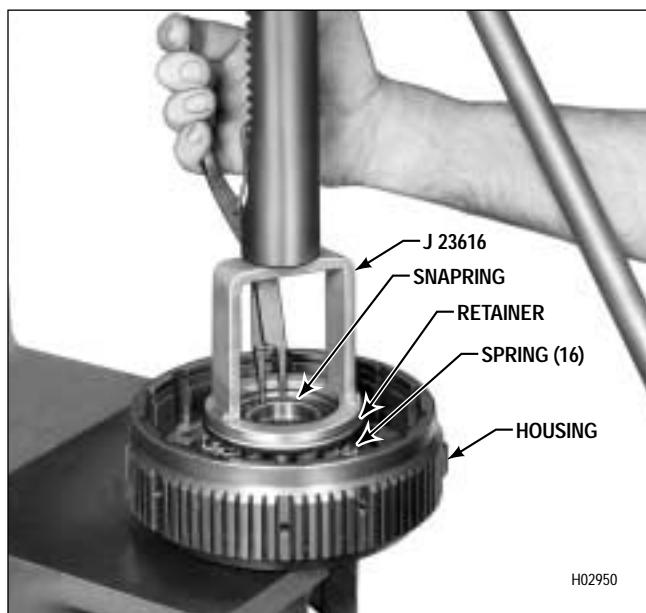

Figure 6-43. Removing (or Installing) Fourth Clutch Spring Retainer Snapring
(1) Place the fourth clutch on the work table, with snapring 1 upward. Remove snapring 1, back-plate 2, five internal-splined clutch plates 3, and five external-tanged clutch plates 4.
(2) Place fourth clutch housing assembly 11 in a press (Figure 6-43).